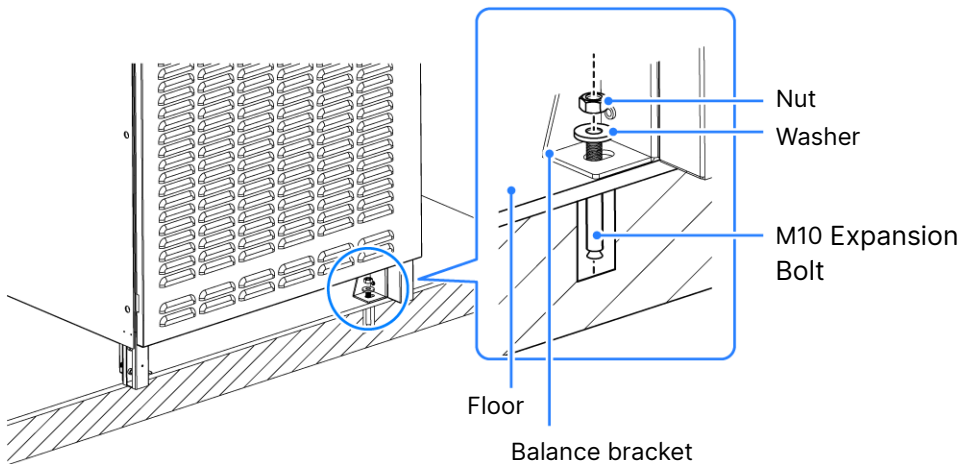

Figure 5-5: 100/ 120kVA UPS_ Fix the Balance Bracket on the Ground
(1) Use two M10 expansion bolts, two washers and two nuts (provided by service personnel) to fix the UPS's two front balance brackets on the ground. Please refer to **Figure 5-5**. Please note that there is no need to install the balance brackets at the rear of the cabinet.
(2) Unscrew the two M8 screws (already fixed on the top of the cabinet), take out the two wall brackets from the package bag and use the removed two M8 screws to install the two wall brackets on the top left and top right of the cabinet. The tightening torque of M8 screw should be 150 ± 5 kgf-cm (130 ± 4.3 lb-in).